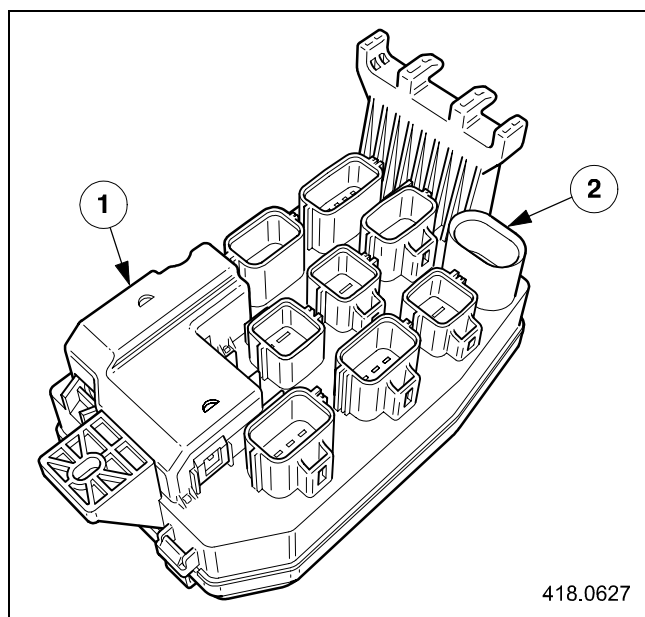

Fig. 12 Battery junction box
NOTE: A ninth connector (Fig. 12, item 2) is only used for diesel derivatives.